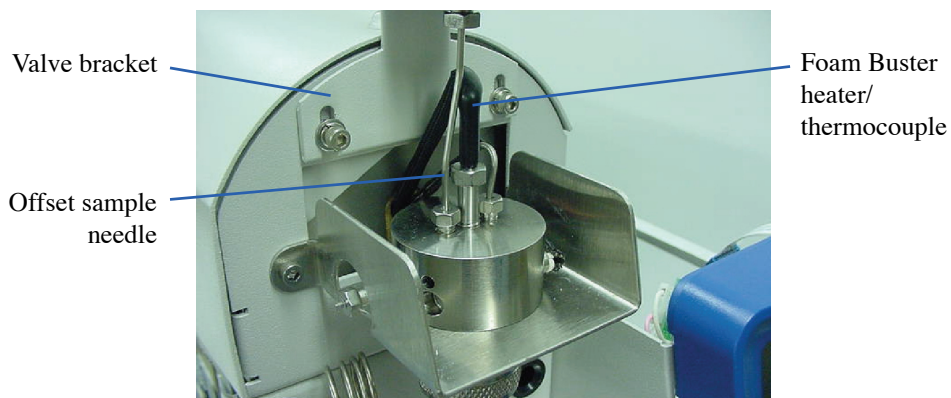

Figure 8.12. Installing the valve bracket on the Eclipse
5. Attach the valve bracket on the Eclipse (Figure 8.12). Do not tighten the screws.